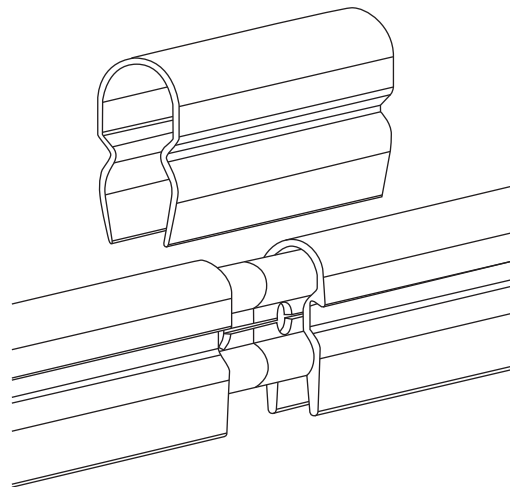

Figure: 9-10
- B. For high heat joint cover (PN: XA-11123), see **Figure: 9-10**.